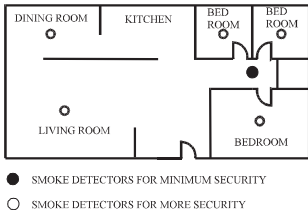
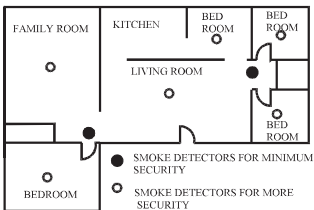

Figure 1: Locations for placing smoke detectors for single residence with only one sleeping area
Figure 2: Locations for placing smoke and heat detectors for single-floor residence with more than one sleeping area
- ◆ Install a smoke and heat detector in the hallway outside every separate bedroom area, as shown in Figure 1. Two detectors are required in homes with two bedroom areas, as shown in Figure 2.